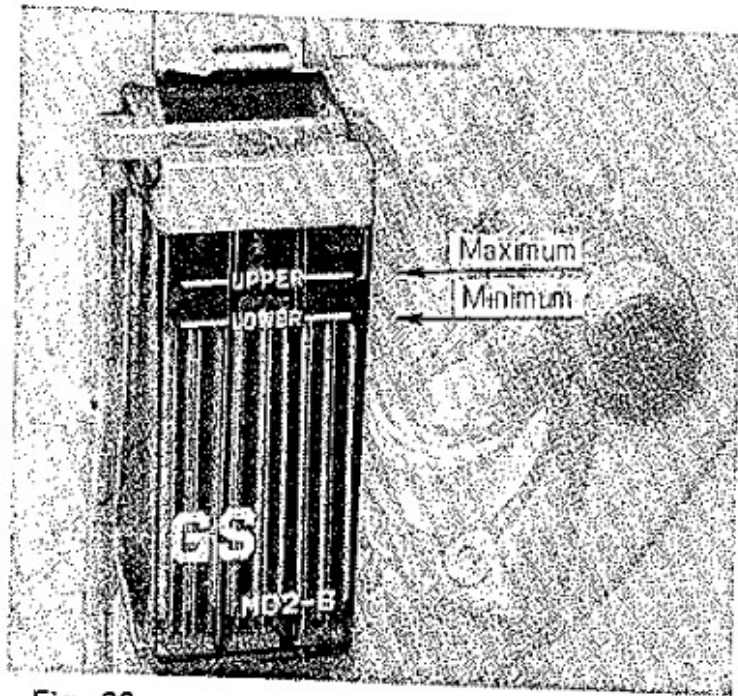

Fig. 22
- a) When the electrolyte level falls below the lower line on the battery, and distilled water only to the level of the upper line (Fig. 22).